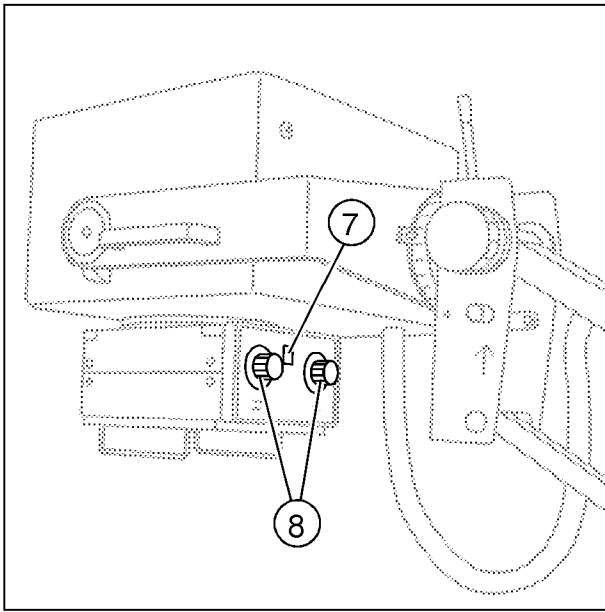
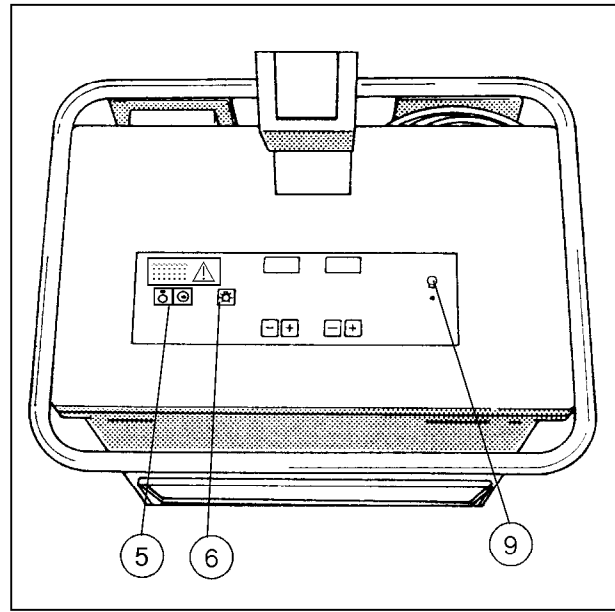

Fig. 4
Fig. 5
- Press the ON key  (5/Fig. 5) on the control console.
Press the  key (6/Fig. 5 or 7/Fig. 4); the light localizer lamp lights up for  $20s \pm 1s$ .
- Check the ease and uniformity of the format adjustment (blade pair) by rotating the collimator adjustment knob (8/Fig. 4).
The radiation indicator (9/Fig. 5) lights during an exposure; at the same time, an acoustic signal sounds.
- ⇒ Release an exposure; the radiation indicator (9/Fig. 5) lights up.